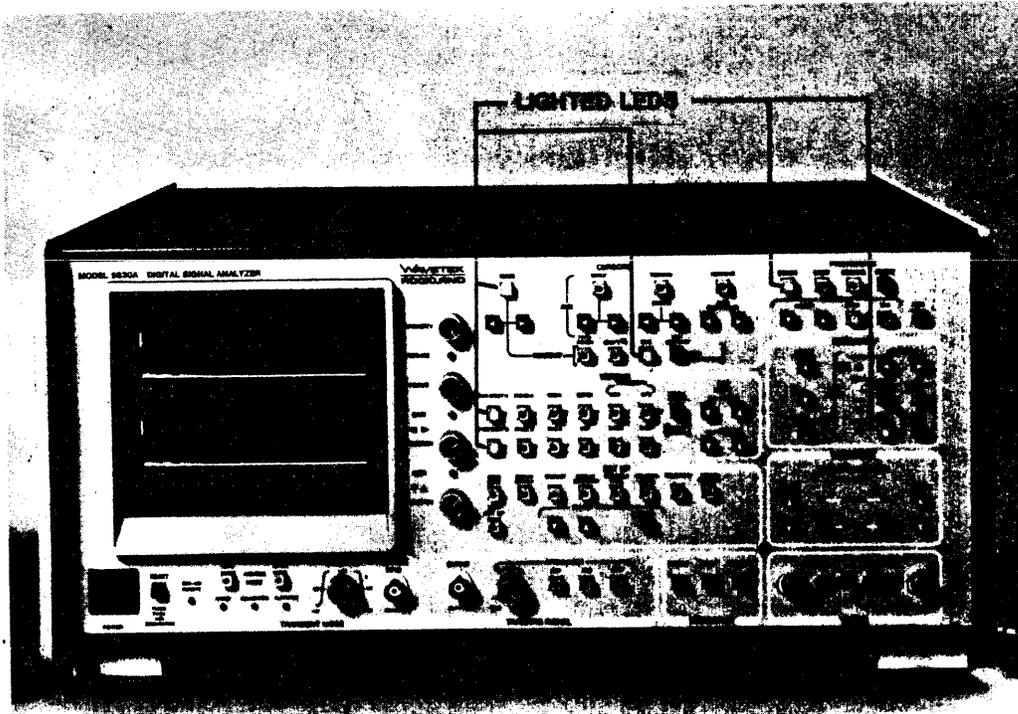

Fig. 3-3B Front Panel After Power-Up in DEFAULT state
- 3 - The CRT should briefly display a split-screen image similar to that shown in Figure 3-3B. Then the word "AUTOCALIBRATION" will appear momentarily (indicating that the 5830A is performing an autocalibration operation). Then the split-screen display should reappear. The 5830A front panel should appear as shown in the illustration, Figure 3-3B, below.
Press the RESET key located near the POWER switch. Everything about the front panel - the lit LEDs and the CRT display - should look exactly as they did when you first powered-up (as in Figure 3-3B). In fact, anytime you press RESET, the 5830A will assume this same preset status. We'll examine that in more detail in a few paragraphs. For reference, the DEFAULT Preset State (see Section 3-15) into which the 5830A is placed by either initial powering-up or RESET is given in the table below: